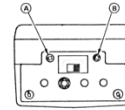

Fig. 5
- (1) Select the desired tone from the chart below.
- (2) Install the correct values of  $R_{501}$  and  $R_{502}$  for the tone frequency desired. Refer again to the chart. Use only 1% tolerance resistors.
- (3) If the tone frequency is 127.3 Hz or higher, install a solder bridge across the foil at point 1 on the Tone Squelch Unit, and another solder bridge at point 2.
- (4) Remove screws A and B in Fig. 5, and remove the back cover of the transceiver.